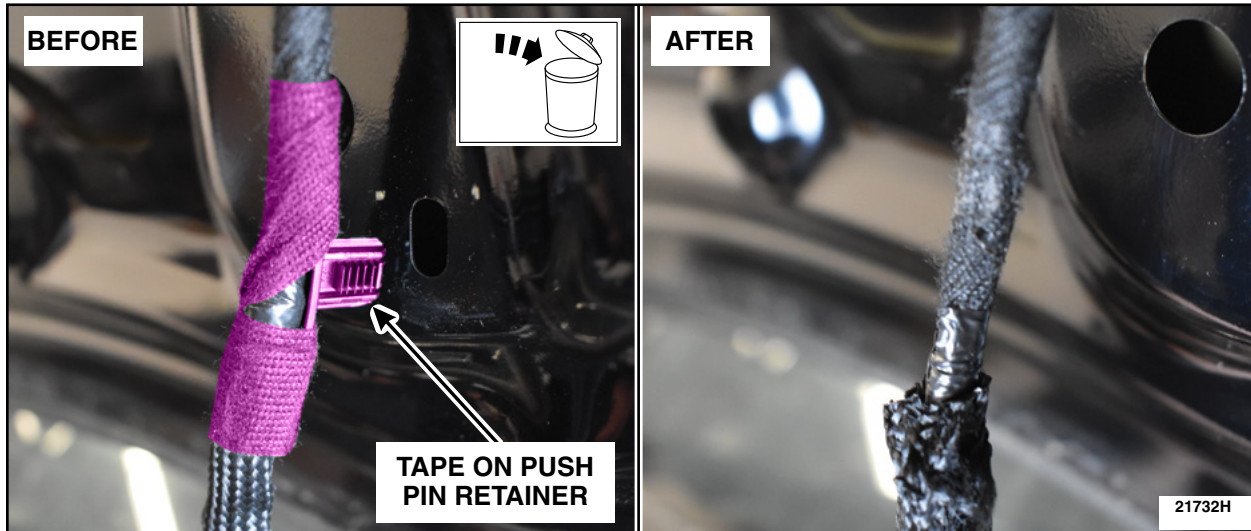

FIGURE 8
12. Remove the tape and discard the wire harness tape on push pin retainer. See Figure 8.